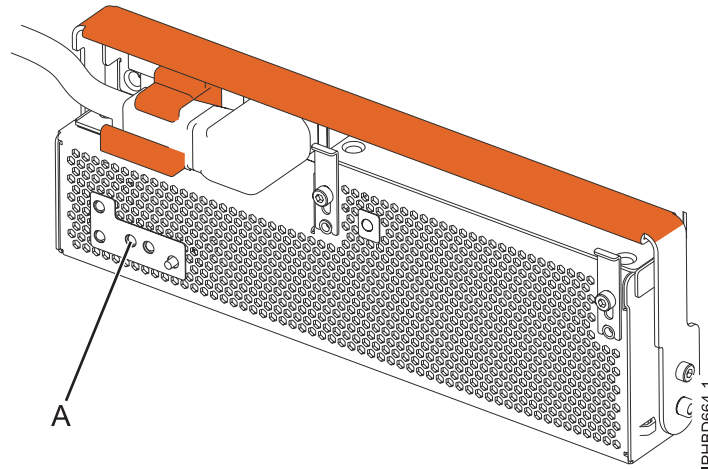

Figure 12. FRU fault and identify LED
4. At the front of the expansion unit, identify the power supply that must be replaced. To identify the power supply, observe the state of the amber field-replaceable unit (FRU) fault and identify light-emitting diode (LED) (A) as shown in Figure 12. A lit (flashing or on solid) LED indicates the failing power supply.